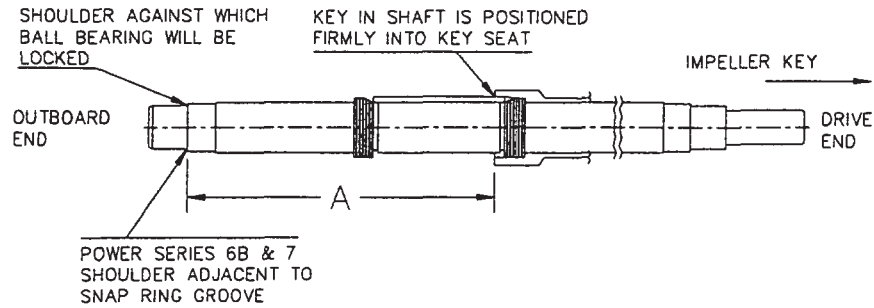
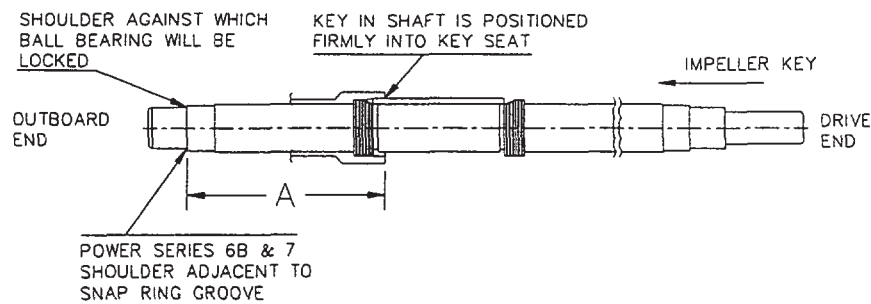

Figure 1 Shaft Sleeve Rotation-CW Rotation
Figure 2 Shaft Sleeve Location-CCW Rotation
2. On a **CW Rotation** unit, thread inboard sleeve (14) onto shaft (4) distance "A" (refer to Figure 1). On **CCW Rotation** unit, thread outboard sleeve (14) onto shaft distance "A" (refer to Figure 2). When sleeve is in position, its keyway should align with keyway on shaft. Coat key and keyway with loctite sealant grade 242. Insert key (102) into keyways of shaft and sleeve. Tap key firmly in place.
3. Coat inside diameter of impeller wearing rings (17) (optional) with Loctite sealant Grade 271 and press them over hubs of impeller(s) (1). Do not attempt to hammer impeller wear rings into position, since they are a press fit. Use of an arbor press is preferred. However, placing a block of wood over the impeller wearing ring and pressing it in will work satisfactorily. For pumps on power frame 5 only, four setscrews will be installed by drilling into wearing rings and impeller. The opposite surface of the impeller should be protected from damage throughout the procedures by resting it against soft wood on the surface of work bench.
- a. Slide one seal lock collar (54) with set-screws (55) facing the impeller onto each end of the shaft. Position on scribe mark made during disassembly and lock in place.
- c. Place the seal's spring, drive ring, retainer, flexible bellows, and washer on shaft sleeve in respective order. (Refer to Figure 1.)
- d. Thoroughly inspect cavity of seal gland (31) for burrs or nicks which could damage the seat of seal. Apply a film of liquid detergent to seal seat and install it in the seal gland cavity, taking care to seat it evenly and squarely.
- **Place "O" rings (50) around seal glands and slide seal glands onto ends of shaft.**
- a. Place one seal seat in collar. The other fits into seal gland (31). These parts are set into their cavities in the same manner as they are with a single seal.
- b. Place "O" rings around collars and put the collars with stationary seats facing away from impeller on ends of shaft. Slide flexible bellows, washers, and springs on shaft in the order shown in Figure 1, for each half of double seal assembly (456).
- b. Place "O" rings (50) around the seal glands (31) and slide seal glands onto ends of the shaft with stationary seats facing impeller.
5. Place slinger (126) onto outboard end of shaft (4).
6. Press grease seal (159A) into bearing cartridge (A159). Place outboard double row ball bearing (168) in bearing cartridge and press parts onto outboard end shaft. Snap retainer ring (161) in place to secure outboard bearing. Place gasket (34) and cartridge cap (B158) in position and secure it with capscrews.